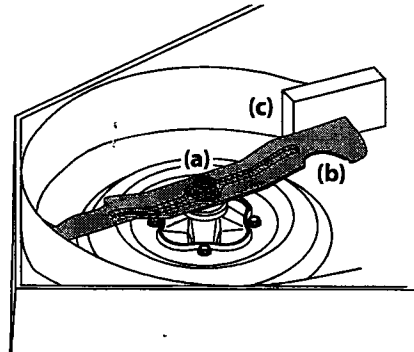

Figure 4-19
2. Use a 1/4" wrench to hold the hex nut on top of the spindle assembly when loosening the hex nut (a) securing the blade (b). A block of wood (c) may be placed between the deck housing and the cutting edge of the blade (b) to help in breaking loose the hex nut (a) securing the blade. See Figure 4-19.